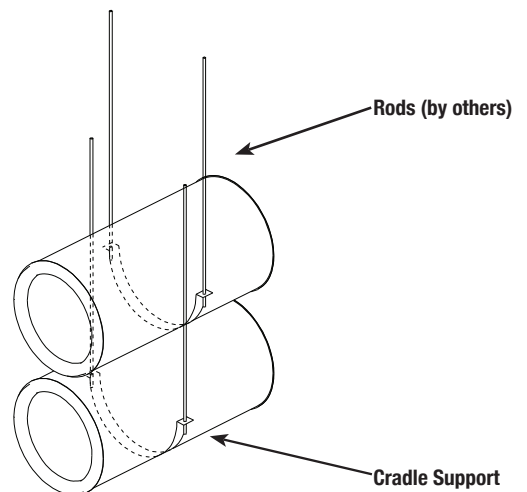

Figure 33 - Cradle Support
3. Cradle support allows to stack two (or more) horizontal chimney runs (See **Figure 33**).